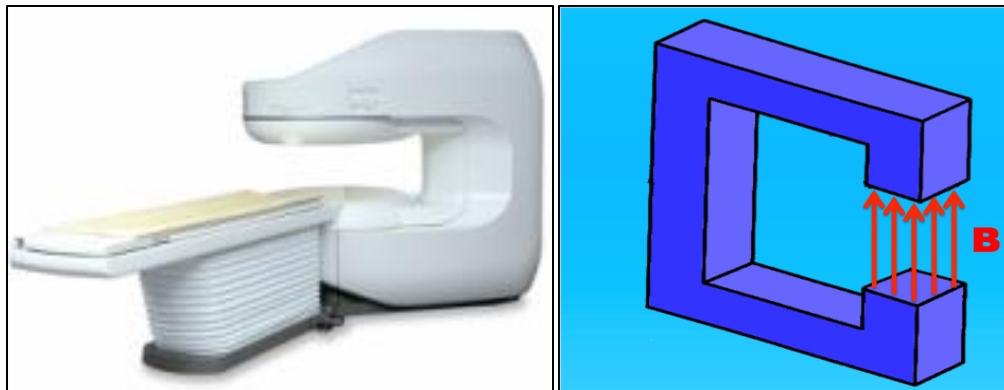

Figure 7. **Left:** permanent magnet scanner, **right:** c-shaped permanent magnet
- 2. Open bore scanners** contain an air gap between two magnetic poles. These may utilize permanent magnets or electromagnets. Permanent magnets in a C-shaped or horseshoe configuration. These operate at field strengths typically ranging from 0.064T to 1.0T (figure 7).